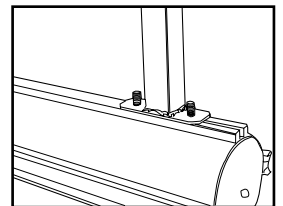

Fig. 9 Attach rail to mounting bracket.
- Attach rail to the brackets using the nuts and bolts provided. See Fig. 9.